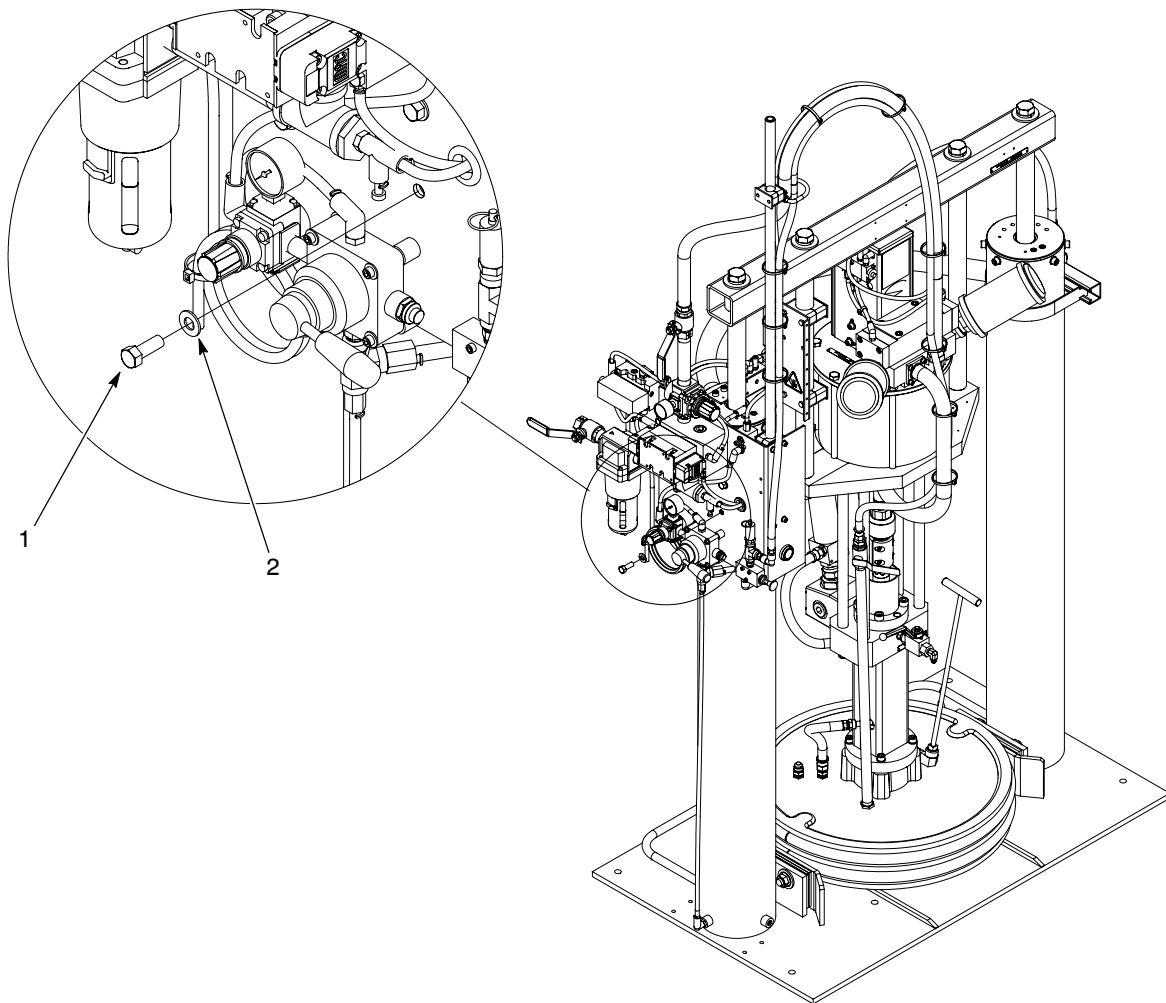

Figure 3 Typical Control Module Installation (*Large frame shown*)
See Figure 3. Mount the Control Module onto the bulk unloader using the supplied screws (1) and washers (2). Tighten the screws securely.